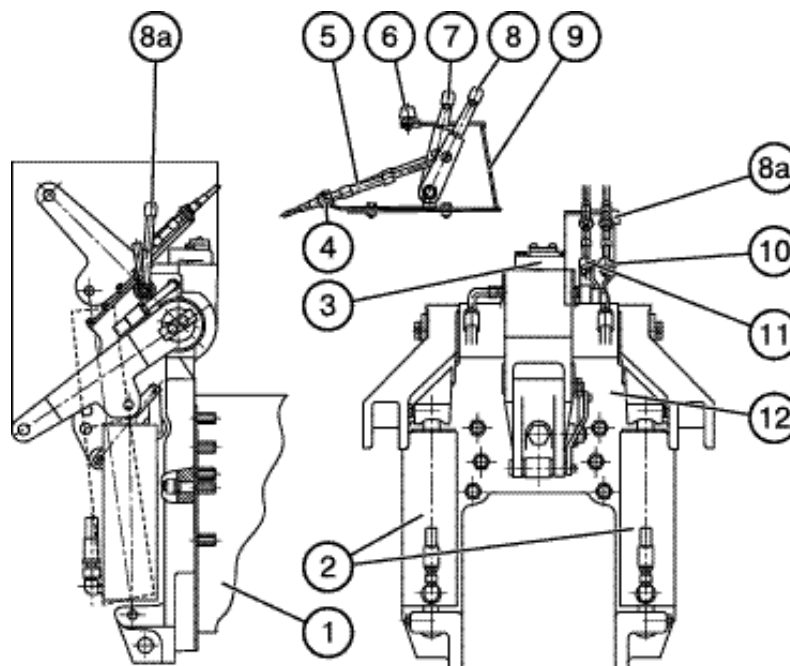
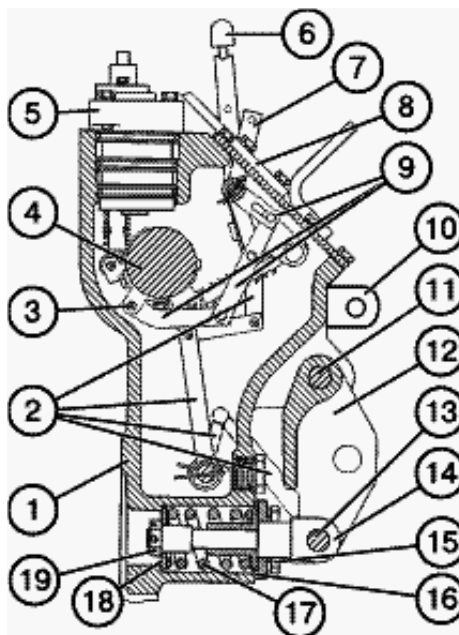

Fig. E-29. Hydraulic power lift of the HLL (monoblock):
Fig. E-30. Hydraulic power lift construction:
The **operating controls** of the hydraulic system (7), (8) (Fig. E-29) are located in the tractor cab, with the exception of the pump engagement handle (the design is
left unchanged) and additional position control handle (8a) (Fig. E-29) located on the rear of the tractor on the hydraulic power lift.
The **draft control handle** (7) (Fig. E-29) is located on the right-hand control panel (9), the first from the operator's seat. The operational range of the handle positions is marked with digits from 1 to 9 that corresponds to the entire span of ploughing depths from minimal to maximal ones, respectively.
The **position control handle** (8) (Fig. E-29) is located next to the draft control handle (7). Its operating range is marked with the same digits which cover RHL positions from the upper transport position down to the lowermost position, respectively.
The **additional position control handle** (8a) (Fig. E-29) is located on the rear of the tractor on the hydraulic power lift. Pulling this handle towards the operator standing behind the tractor and looking along the tractor forward travel lifts the RHL and pushing the same from the operator lowers the RHL.
Hydraulic Power Lift (Fig. E-29, E-30)
The hydraulic power lift (Fig. E-29) is installed on studs, on the rear wall of the rear axle casing (1) and consists of a control unit and a regulator-distributor (3) built
When the position control is used, the draft handle (7) (Fig. E-30) should be shifted to its foremost position, in the direction of the tractor forward travel. Further control of the hitch linkage is achieved by means of the position lever (6) (Fig. E-30) and handle (7) via ropes (5) (Fig. E-29). When moving the lever (6) backward, the hitch linkage is lifted and then moving the lever (6) forward, the hitch linkage is lowered. This adjusting process is performed by means of the regulator-distributor built in the monoblock (1) and controlled by means of the position sensor (3).
Using the position control handle (8) (8) (Fig. E-29) for limiting the ploughing depth when operating in the draft control mode makes it possible to achieve the **combination adjustment**.